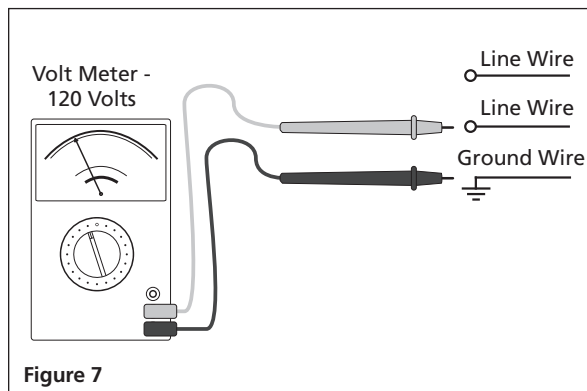

Figure 7
1. Inspect the source wiring before continuing with installation. Confirm voltage with volt meter line-to-ground (see Figure 7).